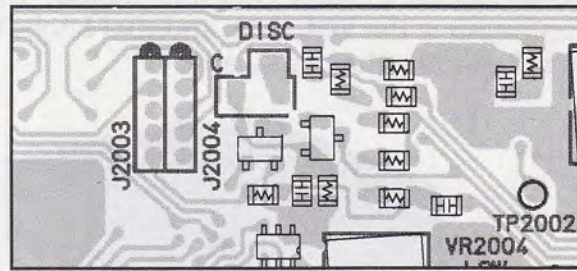

Fig. 2 RX Audio Component Location
- Locate the unused pad beneath connector J2004, labeled **C** (Fig. 2). Install a 0-Ω chip resistor\* across at this location, and a wire to the pad just to the left labeled **DISC**. This makes the connection for de-emphasized discriminator audio output for decoding.